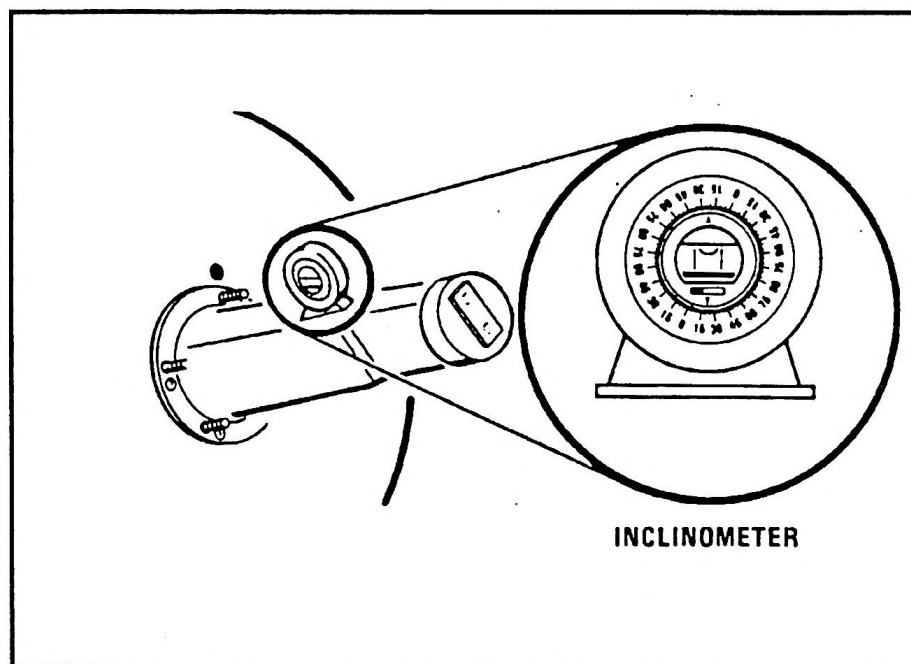

Figure 4-11. Elevation Angle Measurement
2. Refer to Figure 4-11 and use the inclinometer to measure the elevation angle. (Elevation angle is measured from the horizontal plane. The example in Figure 4-11 shows the inclinometer setup for measuring a 22-degree elevation.)